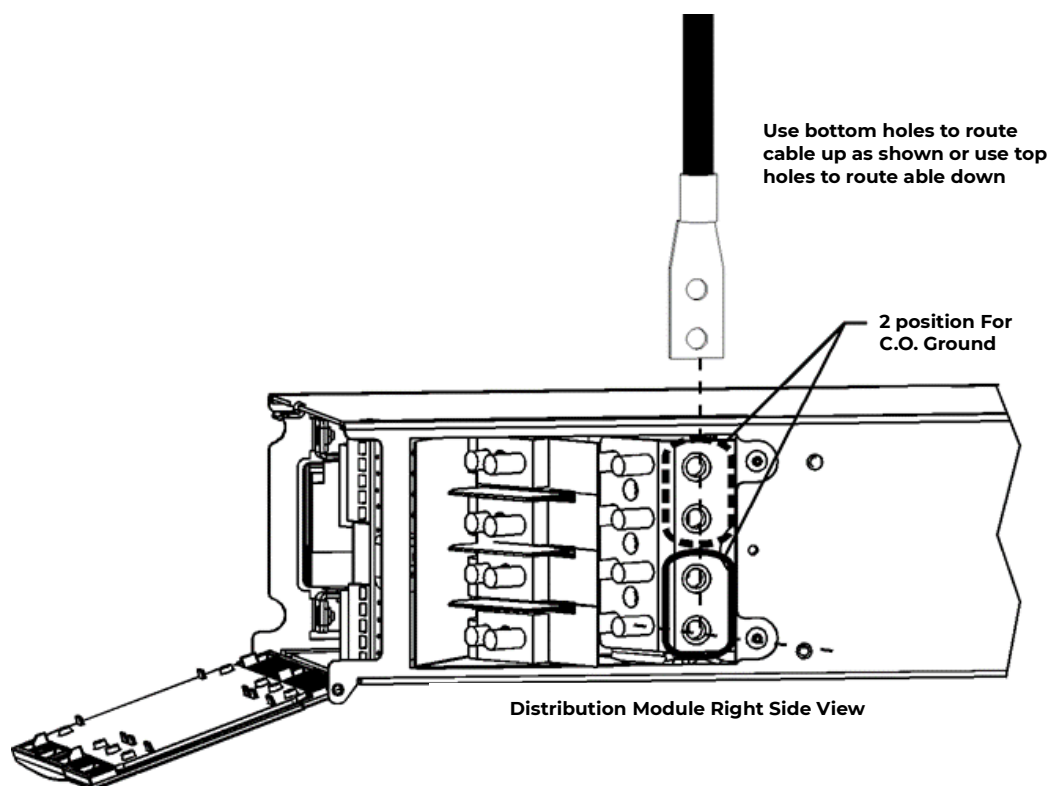

Figure 5-14a: C.O. Ground Conductor Connection
2.	<div> Yes - Connect the conductor lug to the bottom 2 positions for C.O. ground. See Figure 5-14a and b. </div> <div> No - Continue. </div>